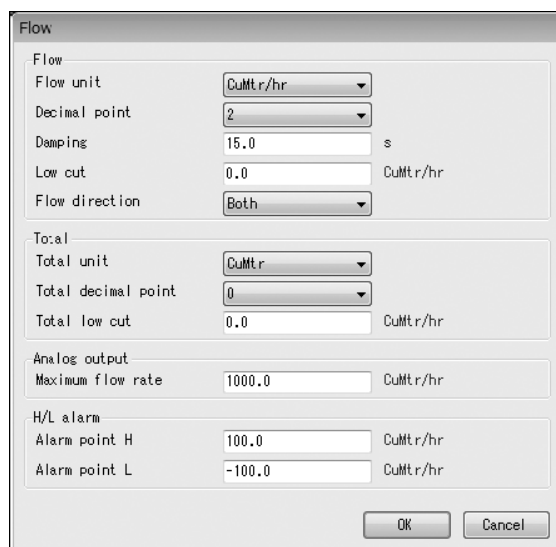

Fig. 3-30
- (1) Click "Setup (S)" from the menu, and then click on "Flow" from the drop-down list of "Fld dev vars".
- (2) The following window (Fig. 3-30) will be displayed.